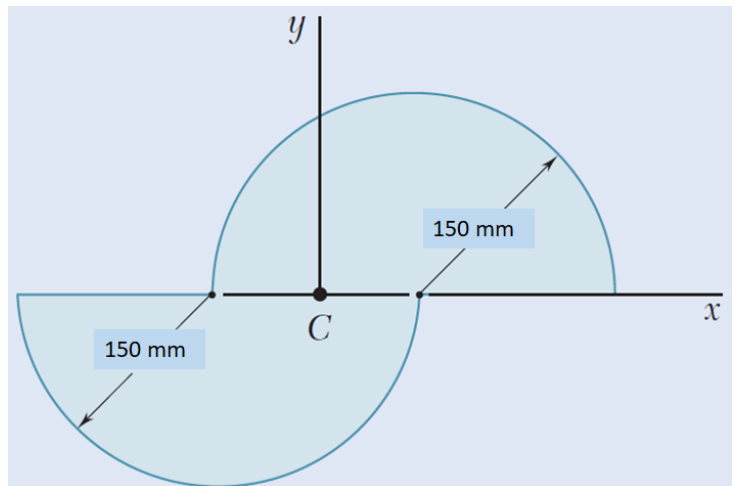

Fig. 6
- Q6.** For the area shown in Fig. 6,  $I_x = 397.61 \times 10^6 \text{ mm}^4$ ,  $I_y = 795.22 \times 10^6 \text{ mm}^4$ ,  $I_{xy} = 337.5 \times 10^6 \text{ mm}^4$ . Using *Mohr's circle*, determine the moments of inertia and the product of inertia of the area with respect to new centroidal axes obtained by rotating the x and y axes  $60^\circ$  counter clockwise. [10 marks]